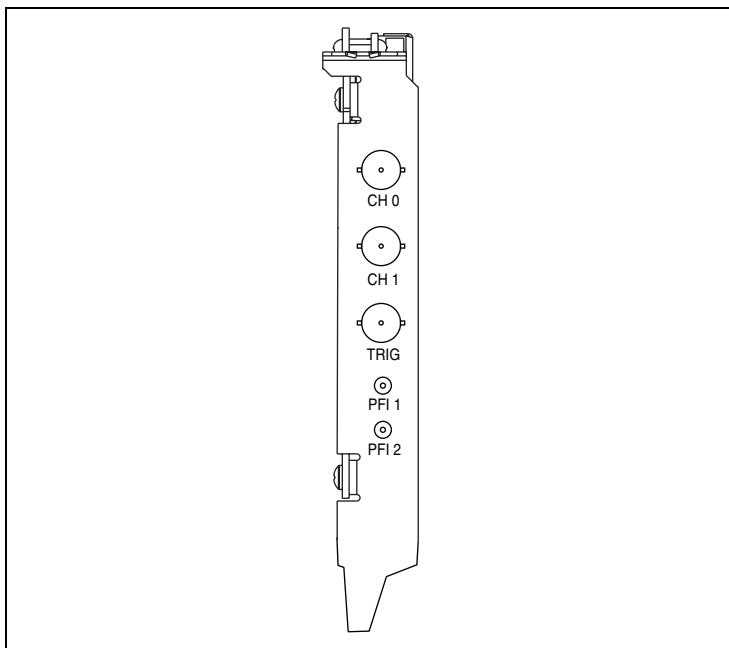

Figure 10. NI PCI/AT-5102 Front Panel Connectors
- ◆ **NI PCI/AT-5102 Front Panel**—Figure 10 shows the front panel of the NI PCI/AT-5102 front panel.